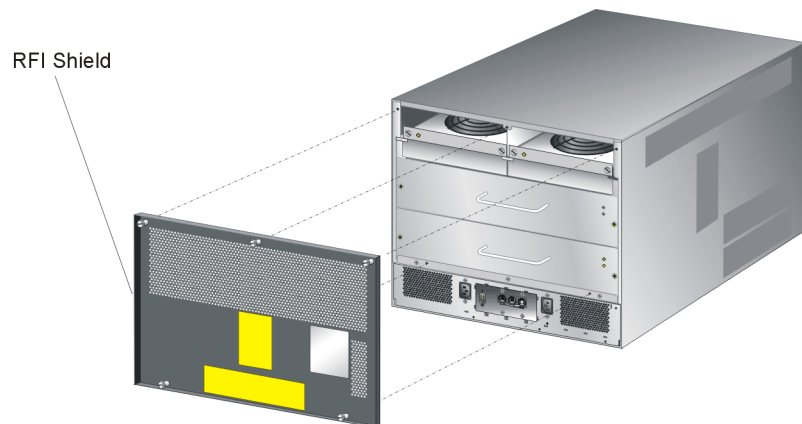

Figure 5-10 RFI Shield Removal and Replacement
1. Five captive screws (three upper and two lower) secure the RFI shield to the chassis (Figure 5-10). Using a flat-tip screwdriver, loosen all five captive screws until they release. Loosen the top center screw last.
1. Position the RFI shield at the rear of the director chassis (Figure 5-10).